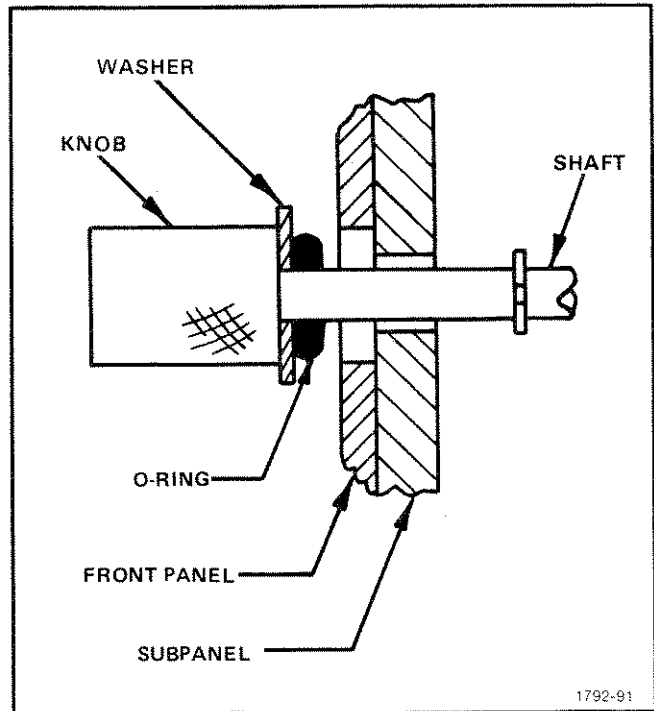

Fig. 5-38. Detail of X-Y Module thumbscrews.
**32. Preparation of the Thumbscrews that are used for securing the X-Y Output Module (see Fig. 5-38)**
3. Position the O-ring on the shaft as shown in Fig. 5-38.